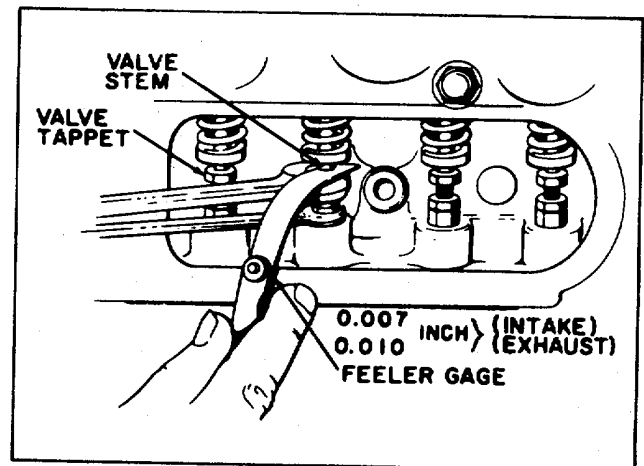

Figure 5-2. Valve Tappet Adjustment
b. Start engine and insert feeler gauge between valve tappet and valve stem. (See Figure 5-2) Loosen the tappet, adjusting lock nut, and adjust tappet until there is a clearance of 0.007 inch on the intake and 0.010 inch on the exhaust. Tighten the tappet adjusting lock nut when properly adjusted.